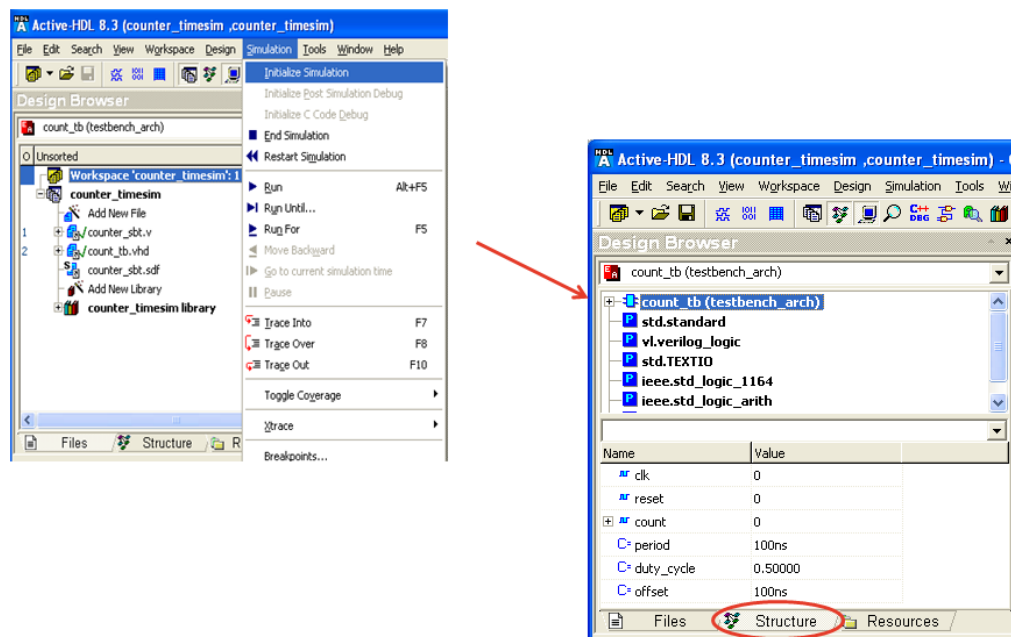

Figure 10-21 : Initialize Simulation
9. Select Simulation > Initialize Simulation. After Initialization, the “Design Browser” view will be changed from “file” view to “Structure” view as shown in Figure 10-21.